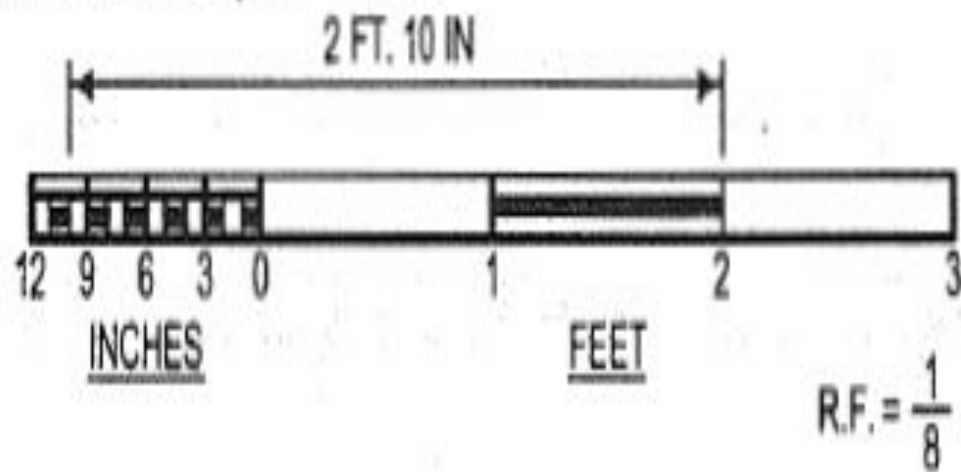

FIG. 4-3
**Problem 4-3.** (fig. 4-3): Construct a scale of 1.5 inches = 1 foot to show inches and long enough to measure upto 4 feet.